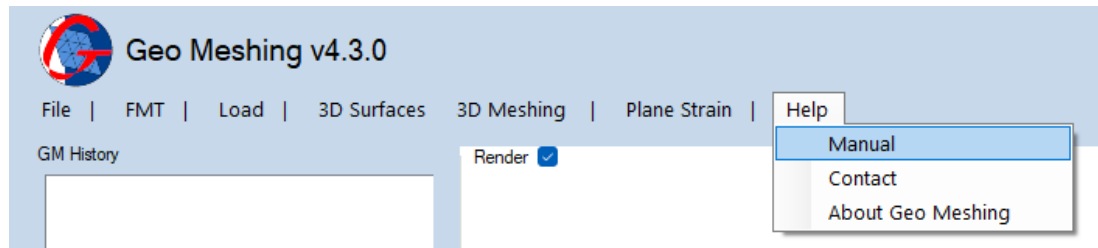

Figure 39: Help Strip Menu – Manual.
- **Help Menu, Manual:** This option (shown in Figure 39) opens this manual.